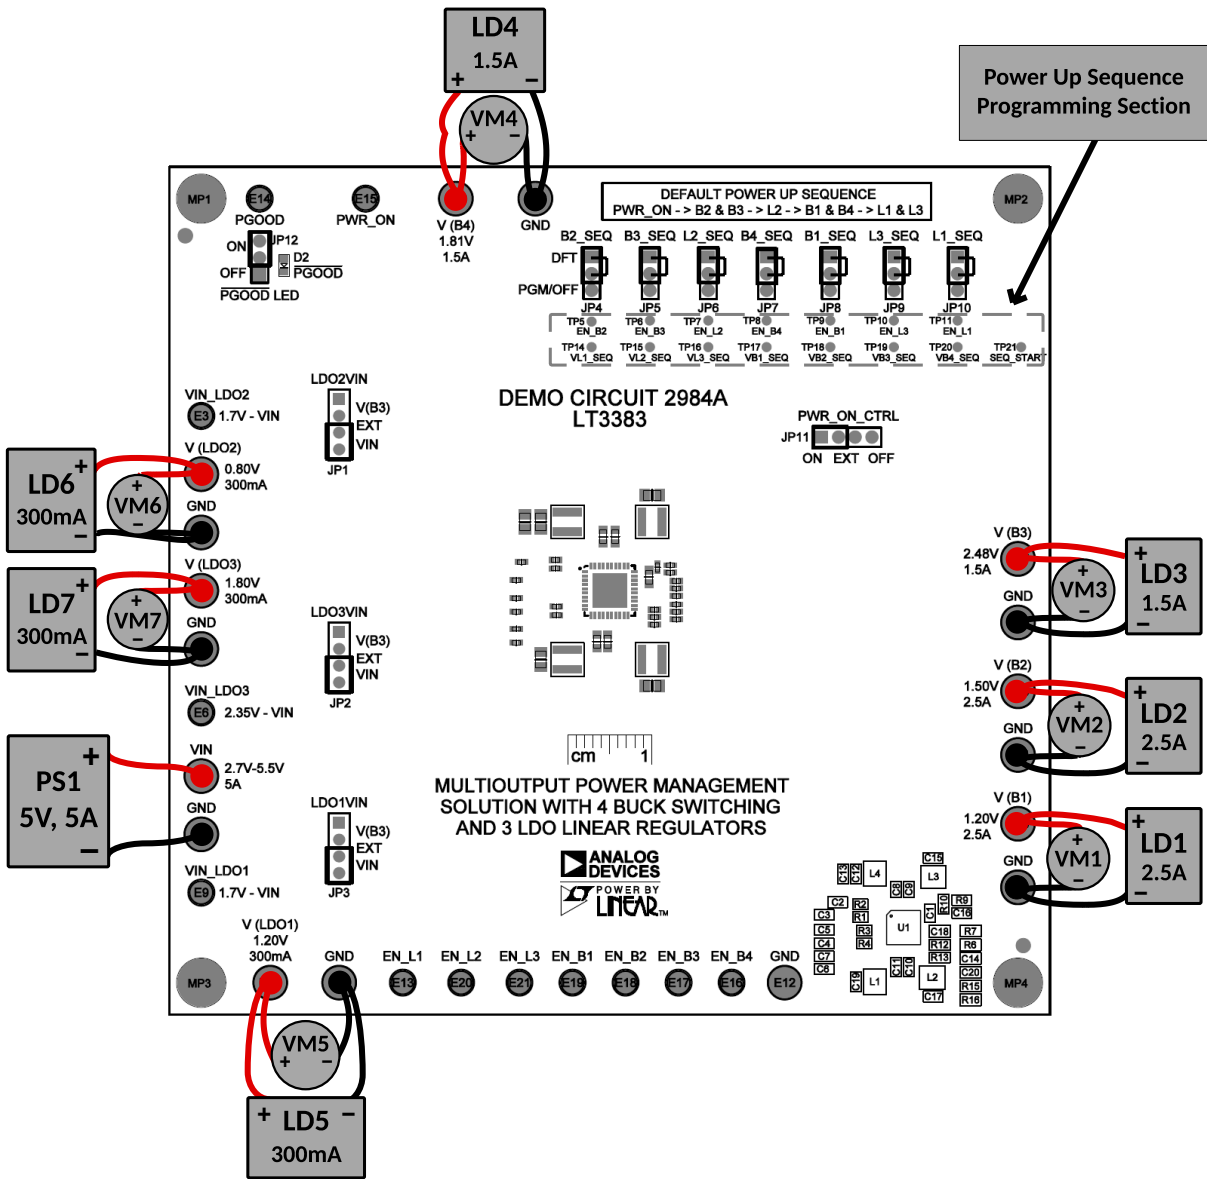

Figure 2. Test Setup for DC2984A Demo Board
1. Refer to Figure 2, configure the jumpers on the demo board as follows:
4. Set each electronic load to its corresponding current level indicated in Figure 2. Turn on each load. The PGOOD LED D2 should stay off, indicating all the outputs are still in regulation under loads. Note that if there are not enough electronic loads for all the regulators, this test can be done sequentially.
6. Optional: The power up sequence can be programmed by configuring JP4-JP10 to PGM/OFF. Referring to Power Up Sequence Programming Section shown in Figure 2, connect the SEQ\_START (TP21) to the enable test point of the first regulators to power up. Then connect the subsequent regulators enable test points (TP5-TP11) to the corresponding VX\_SEQ (TP14-TP20) according to the desired startup sequence. If the enable test point of a regulator is not connected and the jumper is at PGM/OFF position, this regulator is turned off.
The DC2984A has a default power up sequence. User can also program the power up sequence by selecting JP4-JP10 to PGM/OFF position and connecting the output rails to the enable pins at the Power Up Sequence Programming Section shown in Figure 2. The start of the sequence is the rising edge of the PWR\_ON pin. PWR\_ON pin can be pulled up to VIN, pulled down to ground, or connected to an external command source by selection JP13, PWR\_ON\_CTRL jumper.